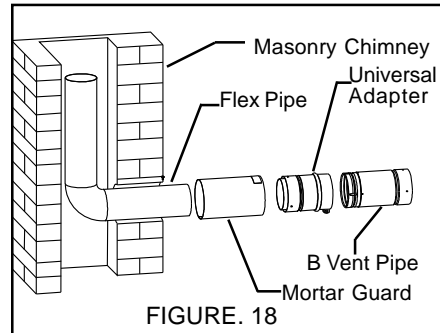

FIGURE 18
1. Prior to installation, a Mortar Guard (MG) should be installed within the prepared opening such that it will provide a protective barrier between the liner and any required filler material. Ensure the end of the MG with the listing label attached extends into the room a minimum of 2" so that the label is visible for inspection (refer to main instructions for additional details).
2. The Flexible Liner should be installed such that it extends at least 2" beyond the Mortar Guard allowing sufficient length for attaching the Universal B Vent adapter to the flex (See FIGURES 18 & 19).